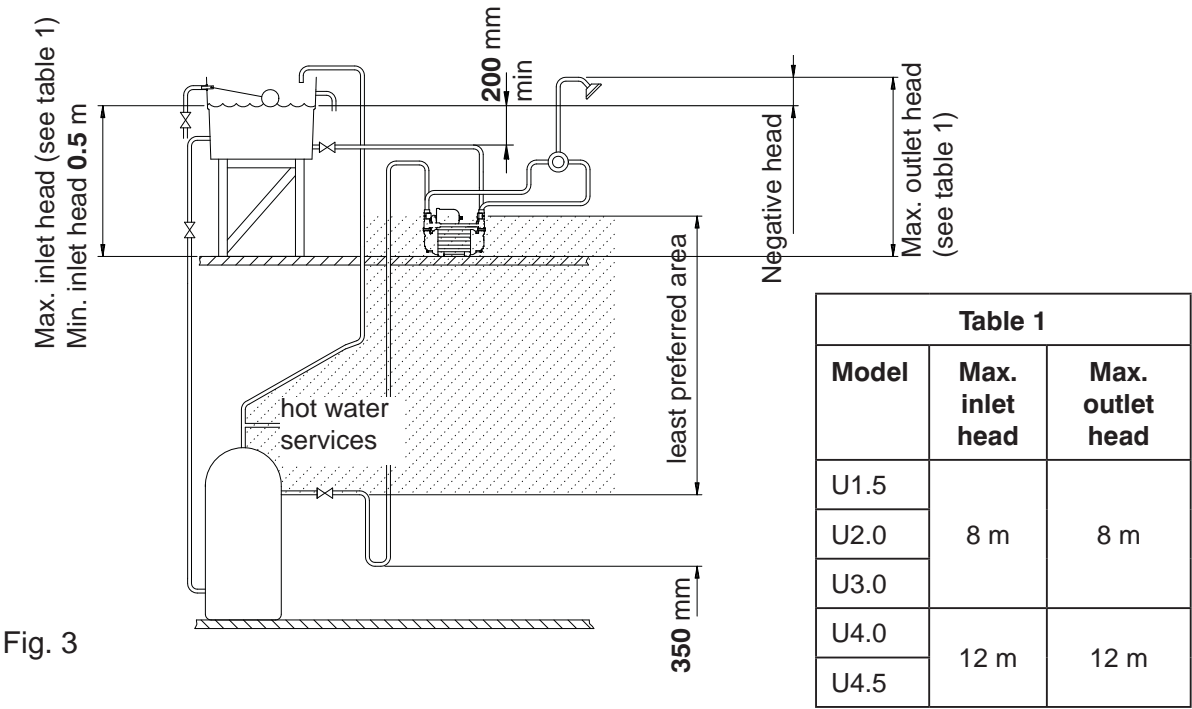

Fig. 3
2.26 Non-preferred pump location: If it is not possible to locate the pump in the preferred area due to site limitations and it is necessary to position the unit in the loft, or in a position above the secondary tapping that feeds the pump, then there is an increased risk of air locks. This risk must be eliminated. The following measures are suggestions that may overcome the problem: A “U” bend or downward loop in the supply pipe to the pump of 350 mm depth before rising to the pump should ensure the cylinder vents its air up the expansion pipe not up the pump feed (Fig. 3).